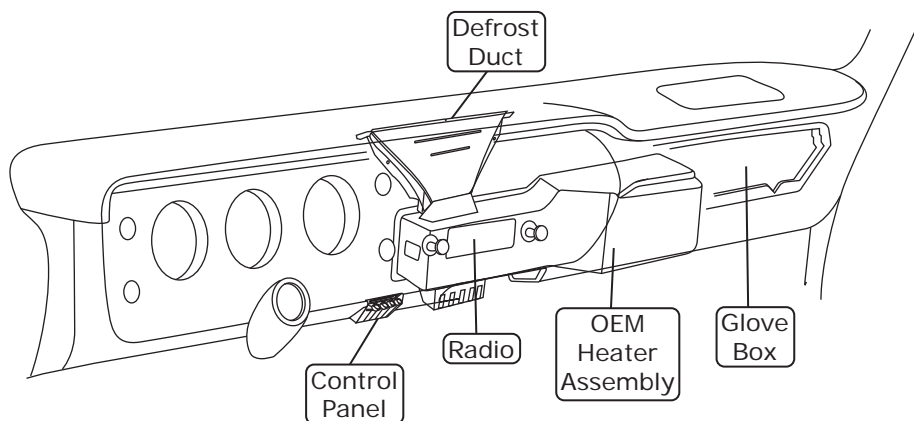

Figure 2
7. Remove the OEM defrost duct assembly (See Figure 2, below).